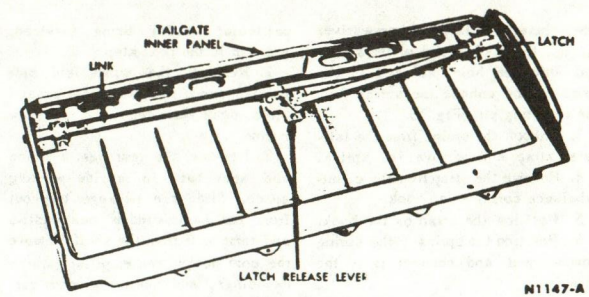

Fig. 4 - Latch Release Lever Assembly
- rotate the latch 90°, and remove the latch (Fig. 4). If only the latch requires replacement, proceed to step 9.